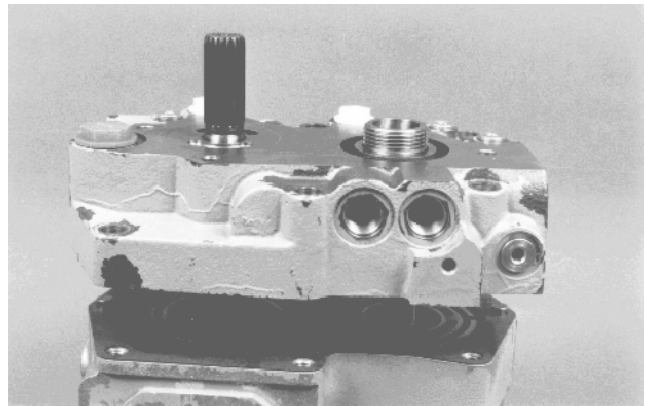

Figure 43
3. Remove center section from housing (Fig. 43).
4. Remove gasket and two (2) alignment pins from housing.